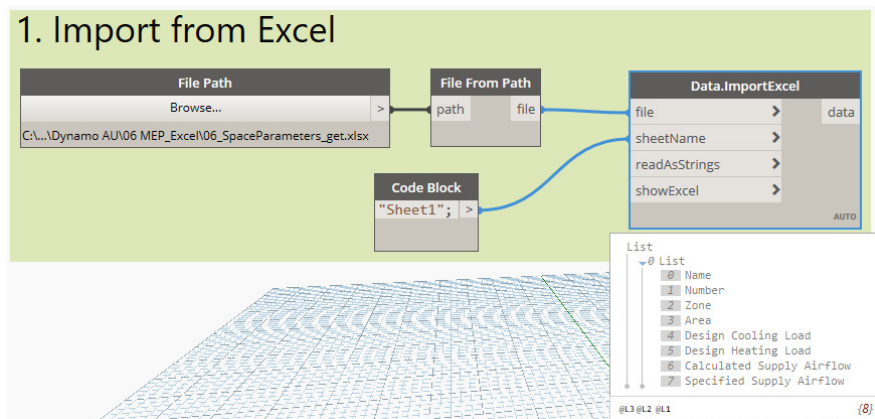

Figure 62
12. Select all the nodes and group them. Name the group: **1. Import from Excel** (see Figure 62).